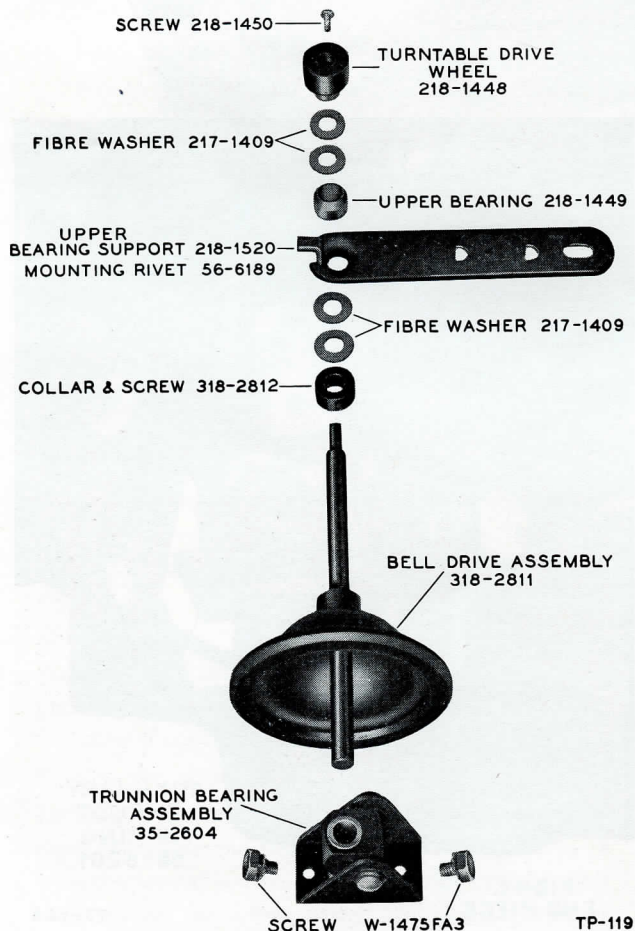

FIGURE 12. CORRECT ASSEMBLY OF BELL DRIVE
22. Slip the collar upward on the shaft, leaving 1/32" clearance between the collar and the bottom fibre washer, and tighten the collar set-screw. Correct assembly of the bell drive is shown in figure 12.